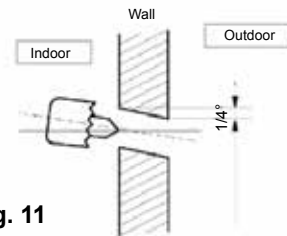

Fig. 11
- A. Determine hole position according to the wall bracket that comes with your unit, the unit's required clearances (Fig. 1) and which direction (left/right) the lines will be routed from the back of your unit (Fig. 14). Drill 2.5" (65mm) hole angled downward (approx. 1/4") toward the outdoors. (Fig. 11).